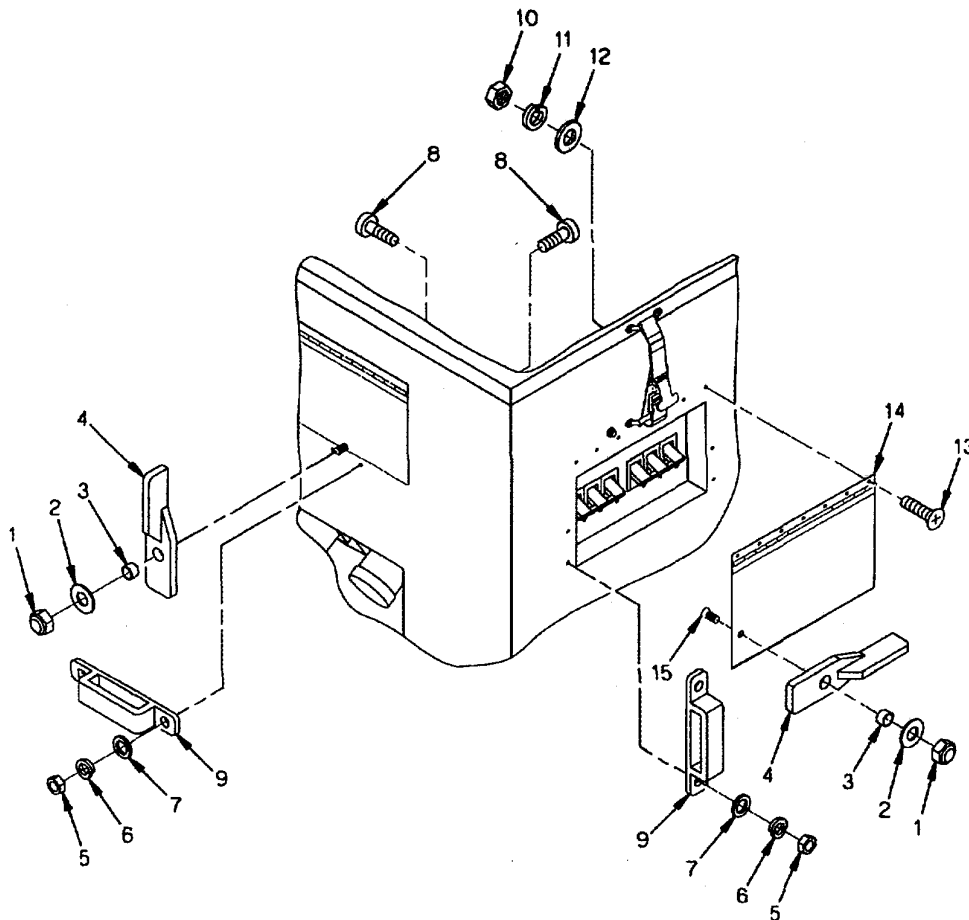

Figure 4-7. Switch Box Latch Replacement
- a. Remove lock nut (1, figure 4-7), flat washer (2), and bushing (3) securing latch (4) to cover and remove latch.
- b. Remove nut (5), lock washer (6), flat washer (7), and screw (8) securing keeper (9) to switch box.